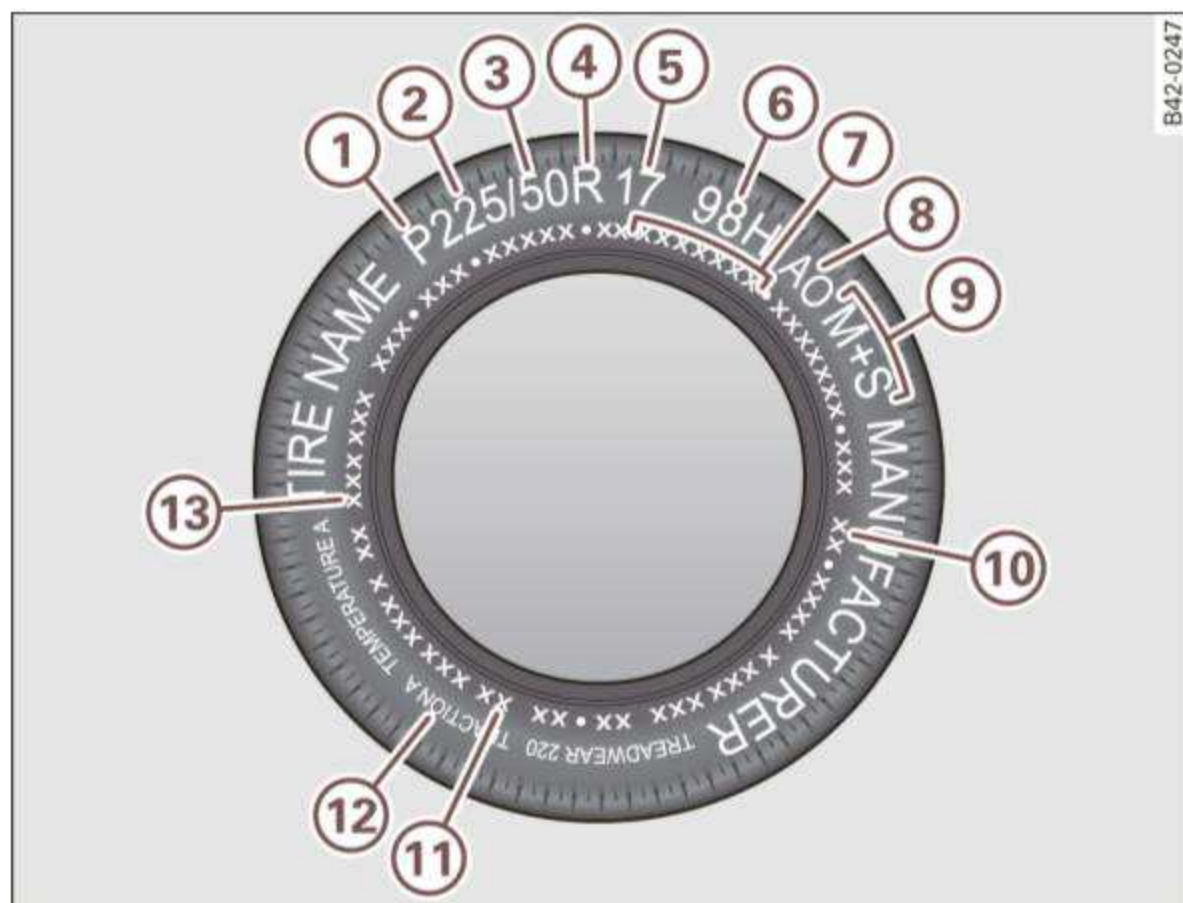

Fig. 126 Tire specification codes on the sidewall of a tire
- Check the tire sidewall (⇒ *page 208*, fig. 126) to determine the designated load rating for a specific tire. ■
Federal law requires tire manufacturers to place standardized information on the sidewall of all tires ⇒ *page 208*, fig. 126. This information identifies and describes the fundamental characteristics, the quality grade of the tire and also provides a tire identification number for safety standard certification and in case of a recall.